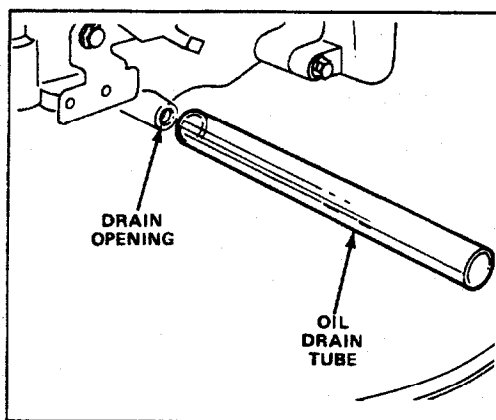

Figure 18
3. Raise left side of mower at least 12 inches. Remove drain plug using a 14mm wrench. Insert oil drain tube over drain opening (Fig. 18).